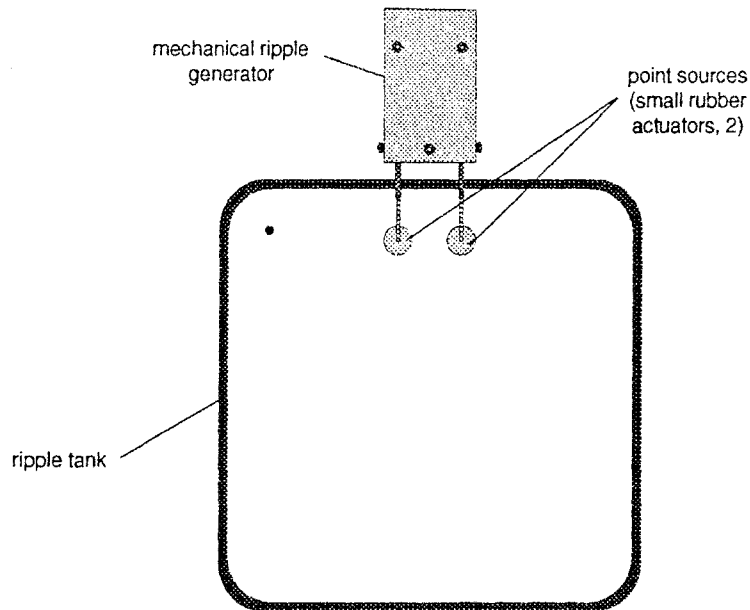

Figure 4.3: Interference Using Two Point Sources
- ⑤ Now remove the straight barriers from the tank and replace the plane wave actuator bar with two point sources (large end of the small rubber actuators) as shown in Figure 4.3. Using the same settings, compare the point source wave pattern with the two-slit pattern.